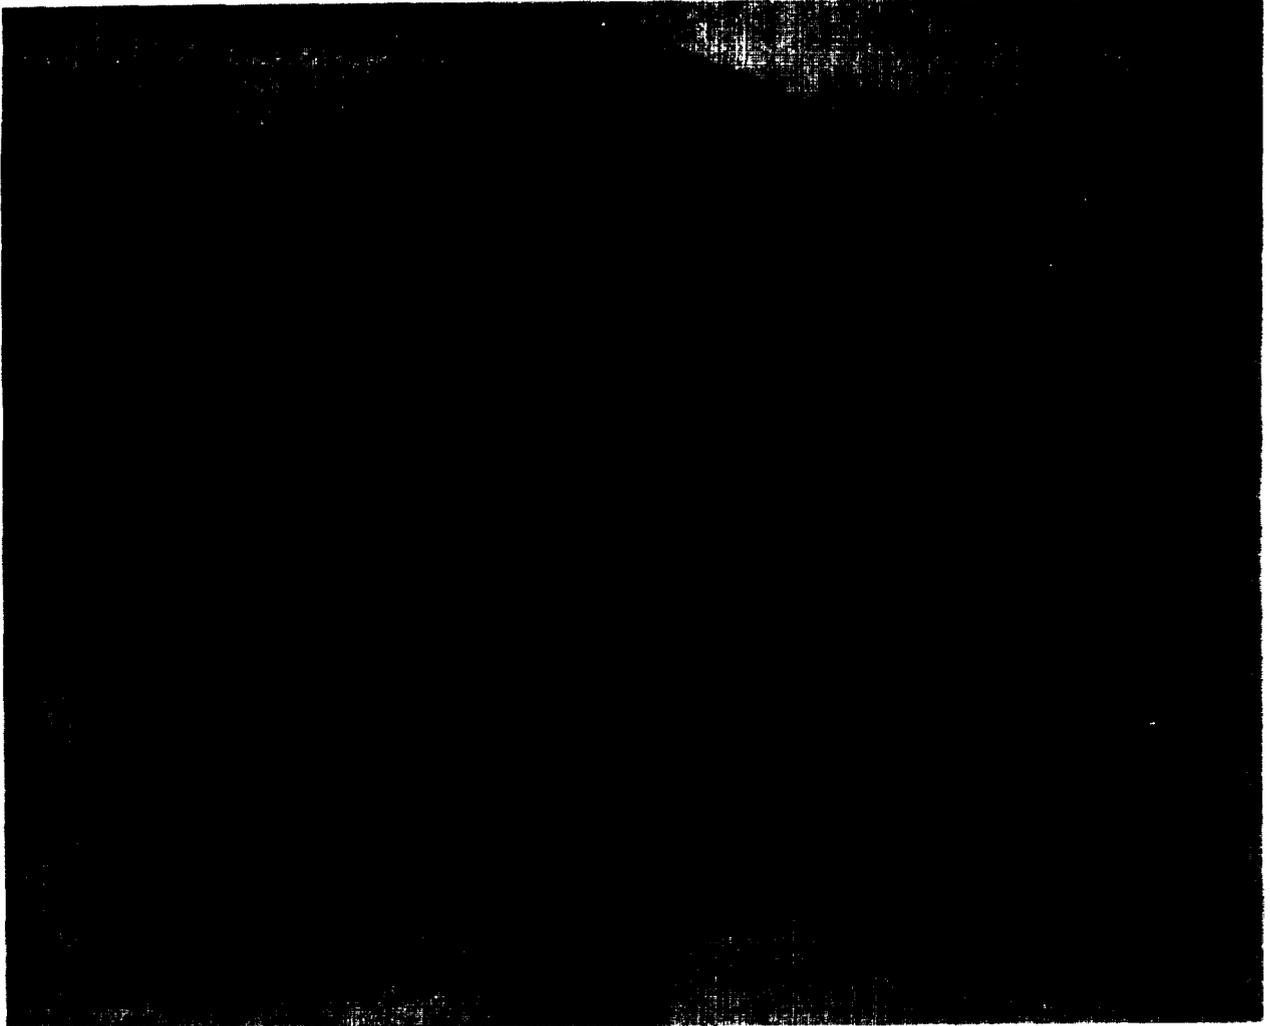

Figure 2-7. Chronograph showing rear panel controls and indicators.
LEAKAGE ADJUSTMENT controls 1 and 2	<p>These controls are used in combination and are adjusted to minimize the amount of transmitted energy entering the receiving circuits. When the MONITOR SELECTOR switch (fig. 2-7) is set to LEAKAGE and these controls are adjusted properly, the MONITOR meter (fig. 2-7) will indicate in the green region of its scale.</p>
(1) Start generator engine and adjust generator for an output of 115 volts at 400 cycles per second.
(2) Set chronograph POWER switch (fig. 2-7) to ON and note that power lamp lights and blowers operate. Allow a minimum warmup period of five minutes before making further adjustments.
(3) Set chronograph MONITOR SELECTOR switch (fig. 2-7) to LINE position and then to B+ position, noting that in both positions the meter needle falls close to red line (70) in the middle of the green region (A, fig. 2-16).
(4) Set chronograph MONITOR SELECTOR switch (fig. 2-7) to LEAKAGE position.
(6) Set MONITOR SELECTOR switch (fig. 2-7) to AGCV position and set VELOCITY SELECTOR switch (fig. 2-7) to the lowest range (70-325). AGC voltage reading on MONITOR meter (A, fig. 2-16) should be near red line.
(7) Set MONITOR SELECTOR switch (fig. 2-7) to SIGNAL Position. Check that the MONITOR meter reading is less than 20 (providing another indication that the leakage signal is properly reduced).
SET lamp lights and digital indicators (fig. 2-7) show 0000.0.
(10) Set up for anticipated calibrating reading by setting VELOCITY selector switch (fig. 2-7) to 925-1150 position.
(11) Momentarily place CAL 1-OPER-CAL 2 switch (fig. 2-7) in CAL 2 position and note that digital indicators read between 1070.0 and 1070.7 and that MONITOR meter needle is deflected into the green region (between 80 and 90).
(12) Depress RESET switch (fig. 2-7) and note that RESET lamp lights and digital indicators read 0000.0.
(13) Momentarily place CAL 1-OPER-CAL switch (fig. 2-7) in CAL 1 position and at the same time tap microphone sharply. Note that digital indicators read between 1070.0 and 1070.7 and that MONITOR meter needle is deflected into the green band. (This checks the microphone and associated circuitry.)
(6) Reel out sufficient microphone cable to connect, test receiver to CARR simulator HORN OUTPUT CONNECTOR.
(7) Connect jumper cable ends (fig. 1-16) to MICROPHONE input connector (fig. 2-7) and CARR simulator CHRONOGRAPH INPUT CONNECTOR.
(8) Turn on chronograph and prepare for normal operation.
(5) Set MONITOR SELECTOR switch (fig. 2-7) to SIGNAL position and adjust LEAKAGE controls for a MONITOR meter reading of less than 20. It may be necessary to readjust the LEAKAGE controls so that the LEAKAGE position reads in the green band while the SIGNAL position reads less than 20.
(7) MONITOR meter (fig. 2-7) should indicate a SIGNAL reading in green band or higher.